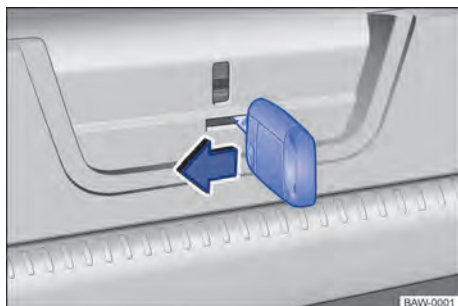

Fig. 62 In the luggage compartment: unlock the boot lid.
- Insert the key blade into the opening in the boot lid → Fig. 62 and move the release lever in the direction indicated by the arrow.